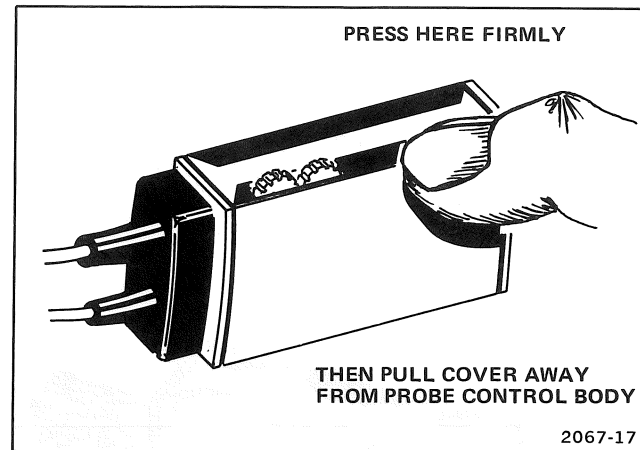

Figure 6-1. Probe control body cover removal.
- a. Remove the probe control body cover (see Fig. 6-1).